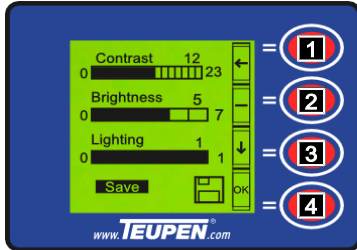

Fig. 91
6. Use the [function keys] (Fig.91/2 and 3) to move the cursor to save.
7. Use the [function key] (Fig.91/4) to confirm the settings.
8. Use the [function key] (Fig.91/1) to return to the settings menu.